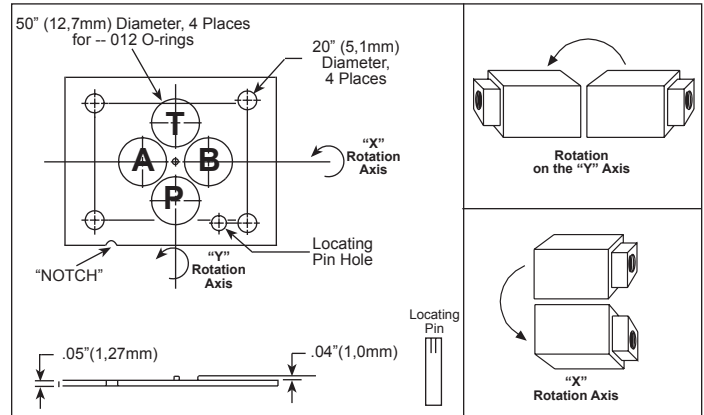

Figure 1. Body Rotation Reference
Many of Sun's ISO 03 (CETOP 3) sandwich bodies are designed for multi-functional use to permit maximum circuit flexibility. With the exception of a limited range of sandwich bodies, Sun ISO 03 (CETOP 3) sandwich bodies do not have a counterbore for installing O-ring seals. Instead, Sun uses a special seal plate with a raised "NIB" and a locating "NOTCH". Sun bodies incorporate oversize, symmetrical mounting holes to allow the bodies to be rotated about the "Y" axis and the "X" axis as shown in Figure 1.
1. Place the seal plate on the subplate mounting surface with the nib facing outward or away from the subplate and the locating pin hole on the seal plate aligned with the pin hole on the subplate mounting surface. At this point, the "NOTCH" in the seal plate should be adjacent to the "P" port of the valve interface. See Figure 1.